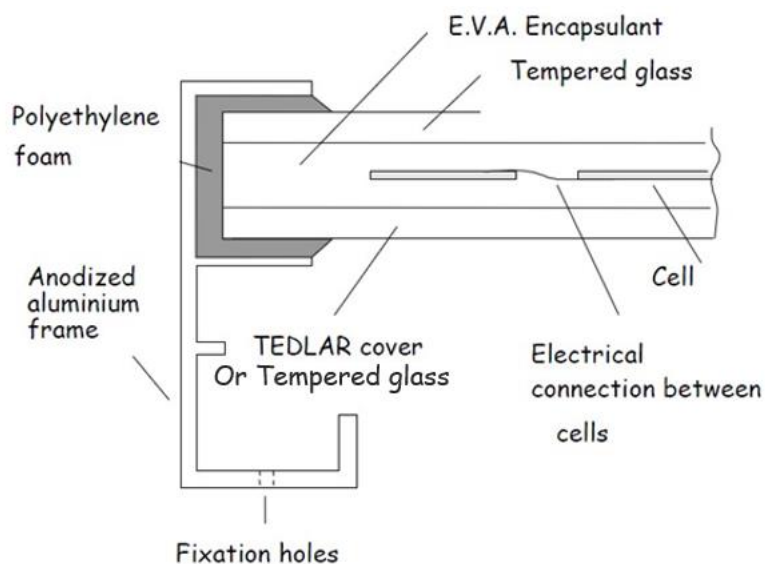

Figure 12
See details in Figure 12.
6. Figure 12 shows a schematic diagram of a cross-section of a photovoltaic module.